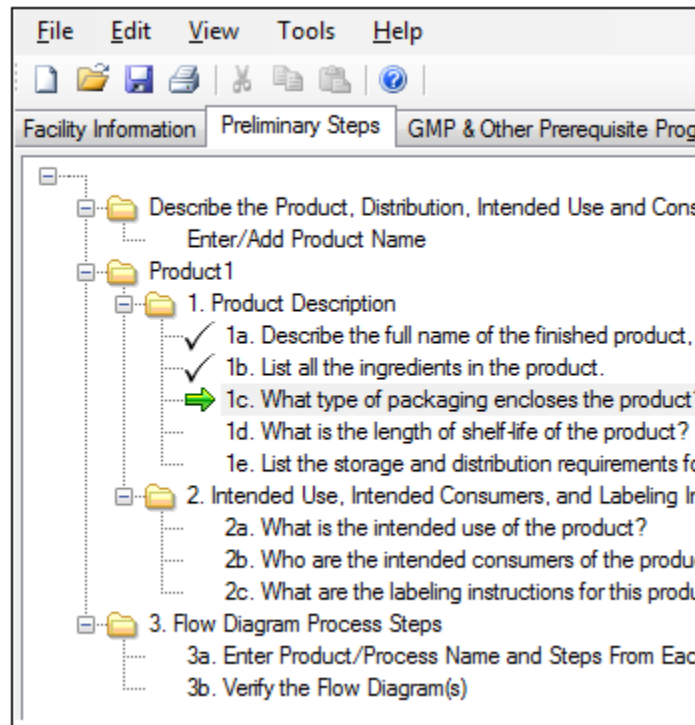

Figure 14: Tree View Navigation
- **Supplementary Information** - The right panel (Figure 14) contains additional background and regulatory information to assist users with responding to the questions. This panel also includes a “zoom in” and “zoom out” feature for improved readability.